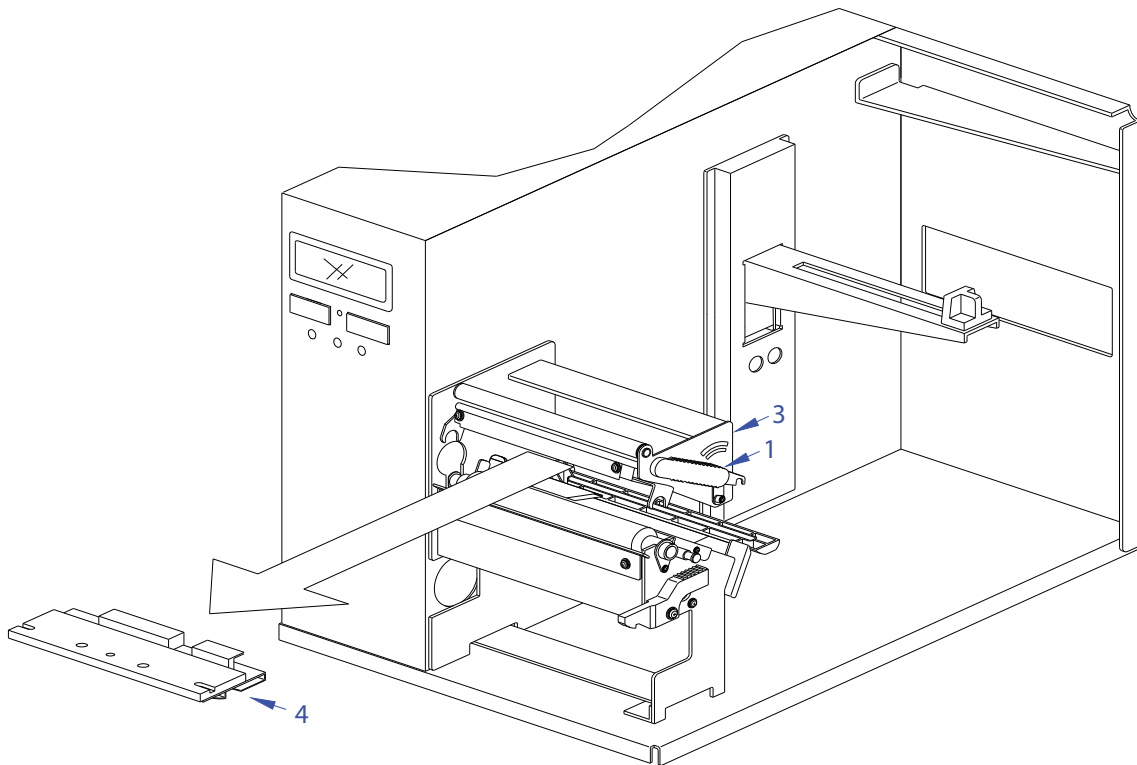

Figure 7-1b, Print Head Replacement
- 3 Remove center screw (2) from upper print assembly (3) securing defective print head (4, Figure 7-1b).